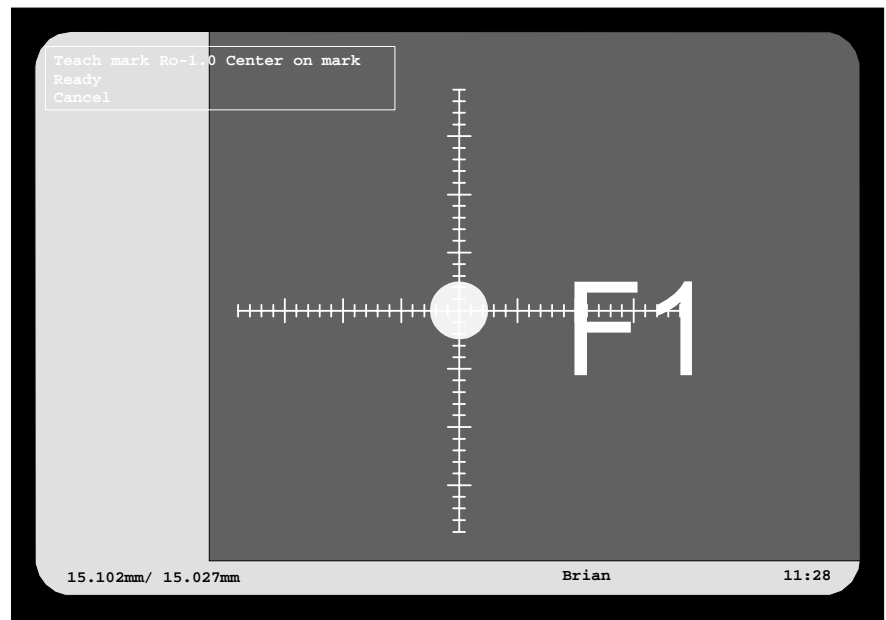

Figure 3-12. Teaching fiducial mark F1
- Center the fiducial mark using the trackball or joystick as shown in Figure 3-12 Fiducial mark *Ro-1.0* is marked F1 on the board.